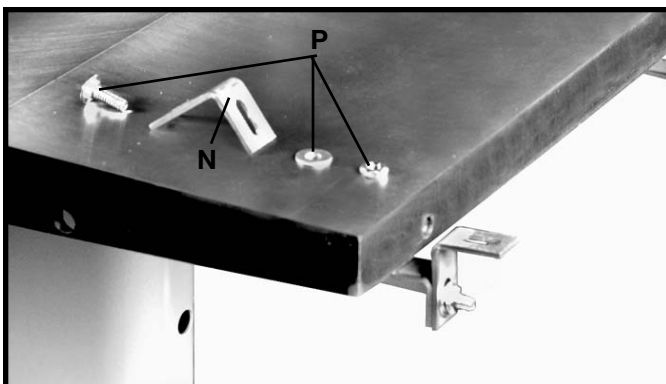

Fig. 43
9. Assemble angle brackets (N) Fig. 43, onto three Z-brackets (J), two of which are shown, using three 1/4-20 x 3/4" carriage bolts, flat washers and hex nuts (P).
NOTE: The longer leg of angle brackets (N) Fig. 43, must be secured to Z-brackets (J).